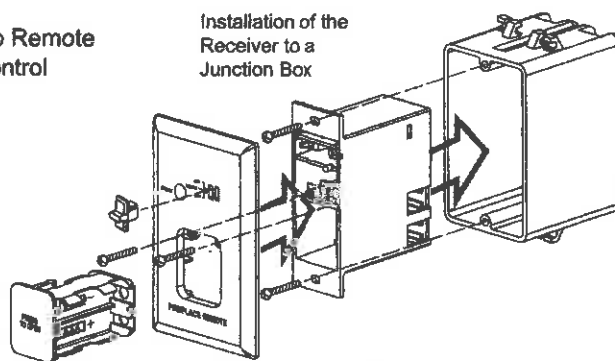

Figure 2
- Use the screws provided to secure the face blade to the Remote Receiver. See *Figure 2*.